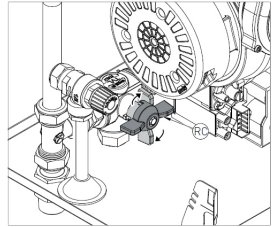

fig. 1
3. Turn the three-way valve to the "recirculation" position, as shown in Figure 1 as 'RC'.